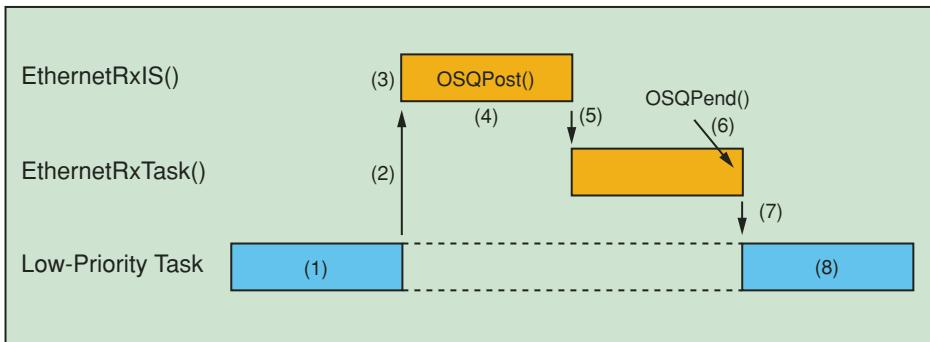

Figure 1 – Execution profile of an ISR and  $\mu$ C/OS-II
The execution profile for these two functions is shown in Figure 1.
$\mu$ C/OS-II then locates the next most important task that's ready to run (the "Low-Priority Task" in Figure 1) and switches to that task by loading the MicroBlaze registers with the context saved by the ISR (7). This is called a *context switch*.  $\mu$ C/OS-II takes less than 1 microsecond at 150 MHz on the MicroBlaze processor to complete this process. The interrupted task is resumed exactly as if it was never interrupted (8).